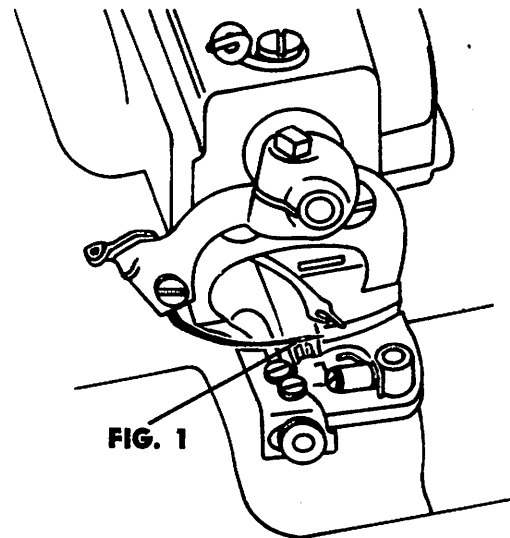

FIG. 1
2. Turn hand wheel **CLOCKWISE** until eye of needle is at slot in presser foot shoe (Fig. 1).